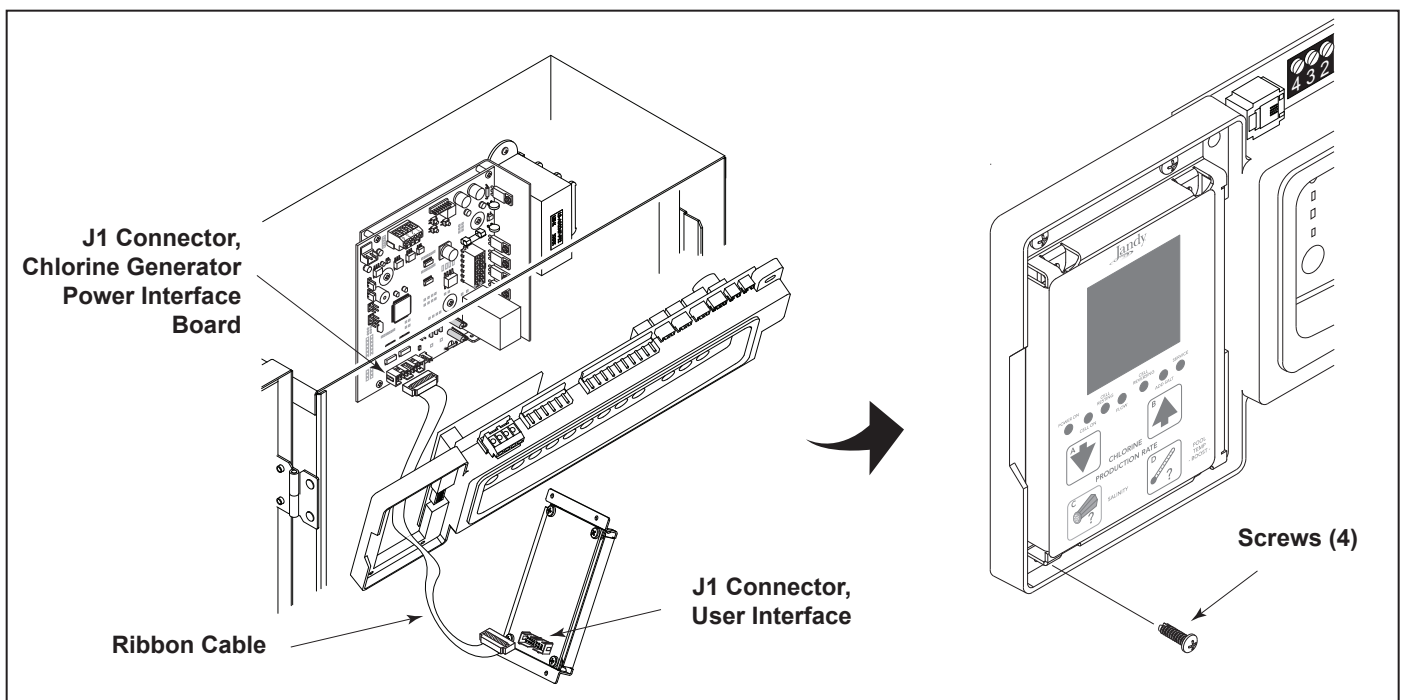

Figure 10. Installation of the User Interface
1. On the chlorine generator user interface board, connect one end of the ribbon cable to the 16-pin J1 connector as shown in Figure 10.
3. Attach the chlorine generator user interface board to the bezel using the four (4) screws provided.